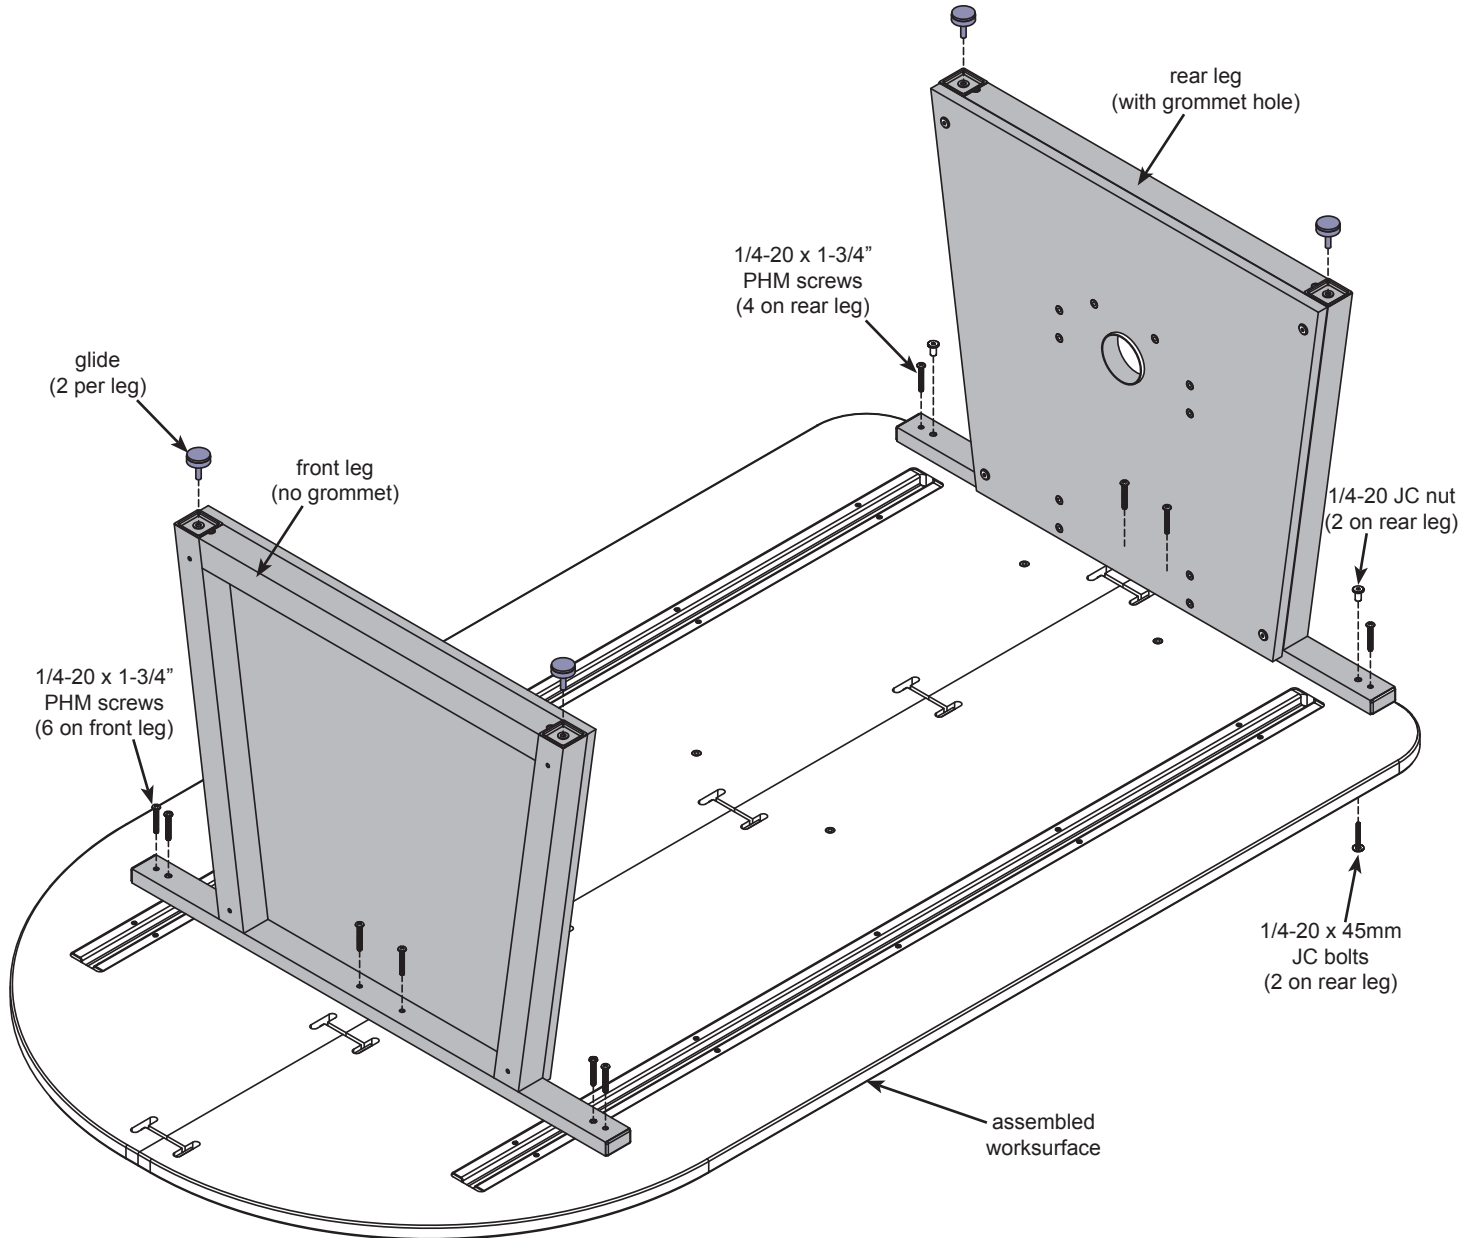

Figure 1
- B. Set the legs onto the bottom of the worksurface as shown with the insert panels facing toward the center. **Figure 1**. Note the rear leg (with the grommet hole) will mount on the flat edge of the worksurface.
- D. On the rear leg, install (2) 1/4-20 JC nuts, and (2) 1/4-20 x 45mm JC bolts through the worksurface. (This will require the worksurface be lifted slightly off the floor and blocked up temporarily to install). It's important these fasteners be installed for support before the unit is tipped upright.